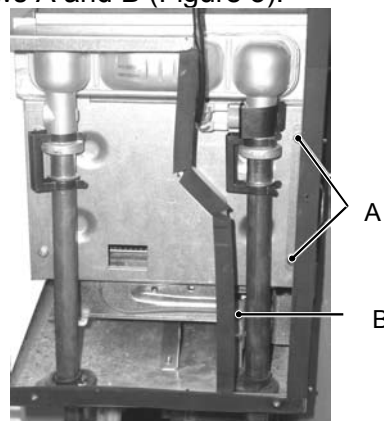

Figure 3
- 2) Remove the deflector by unscrewing the screws A and B (Figure 3).